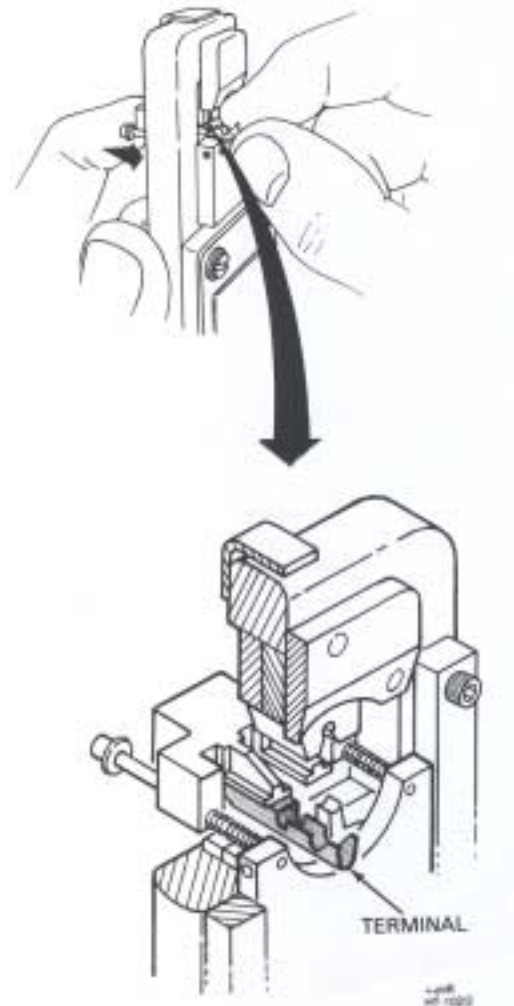

Figure 2. Positioning Terminal for Crimping
1. Hold the hand tool so that the lever is on the left. With your index finger, push and hold the terminal holder in its forward position (see Figure 2).